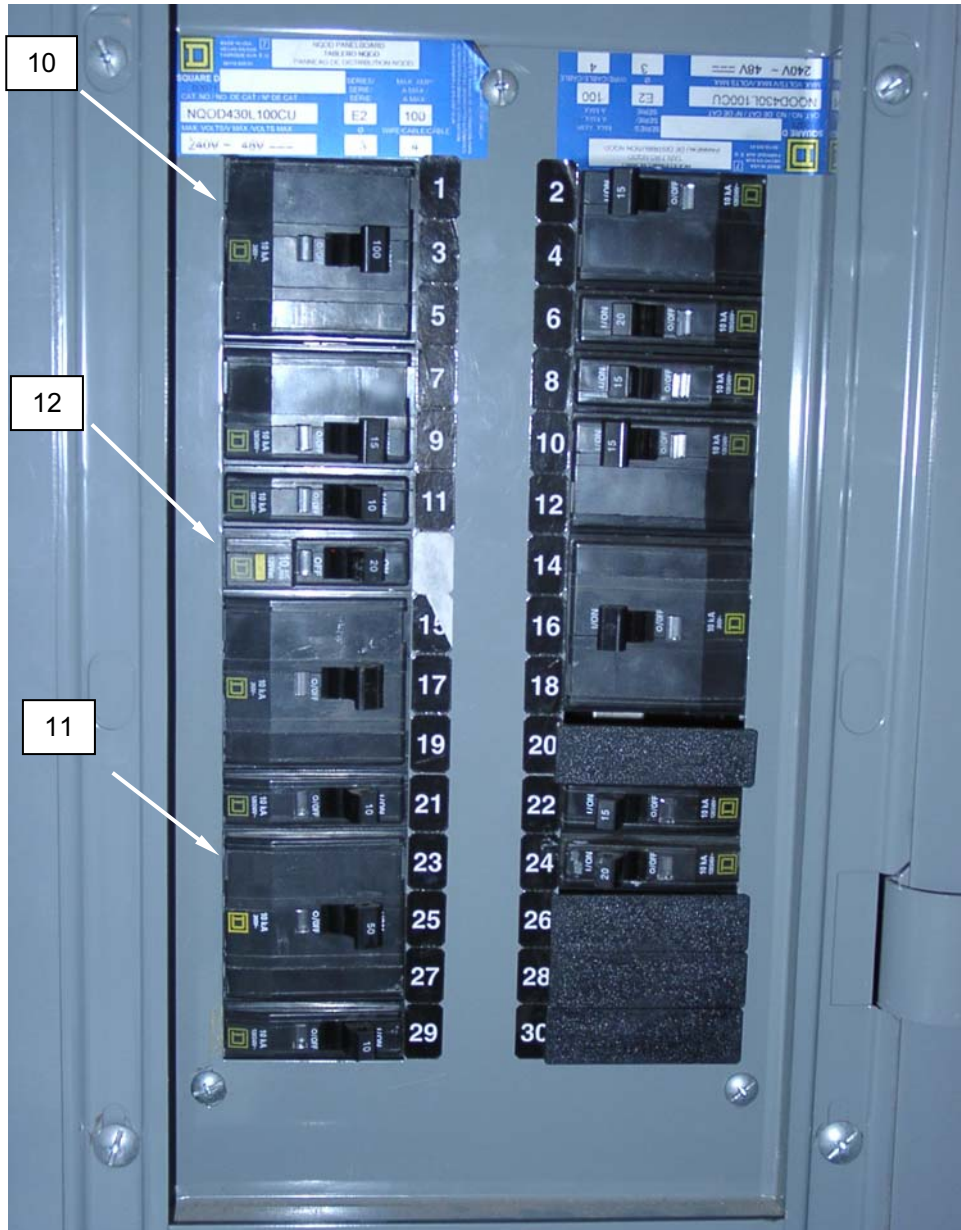

Figure 6. Operation in Severe Cold Conditions – Circuit Breakers.
13. Switch main breaker No. 1, 3, 5 (**Figure 6, Item 10**), 60 A service breakers No. 23, 25, 27 (**Figure 6, Item 11**), and internal lighting breaker No. 11 (**Figure 6, Item 12**) ON in order to provide internal lighting.